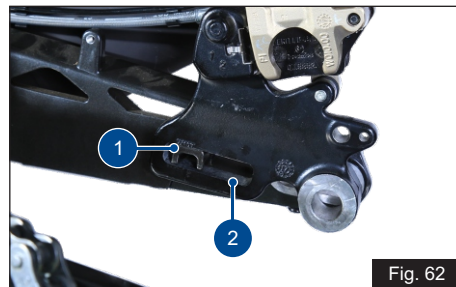

Fig. 62
- ♦ Place the brake-caliper (1) on the guide (2) of the swing arm as shown (ref. Fig. 62)